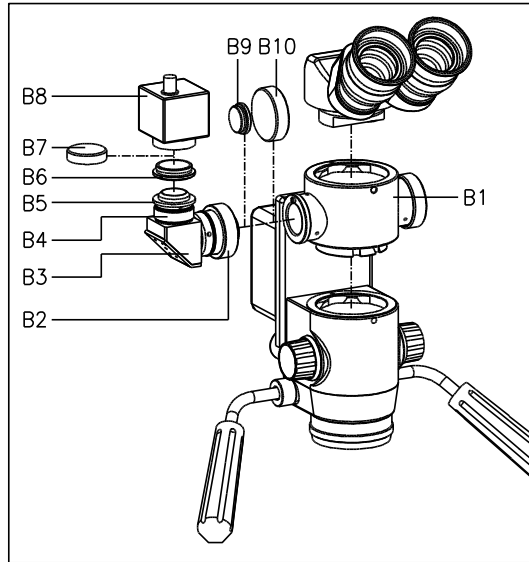

Fig.6
- (1) 10.5.1 Unscrew the inner hexagonal tightening bolt [A3] by the 2mm inner hexagram screw drive.
- (2) 10.5.2 Fix the beam splitter [B1] in the microscope.
- (3) 10.5.3 Select one beam split-port in the left or right side of the beam splitter as the position of the CCD adapter [B3]. Unscrew the dust-proof cover [B10] on the beam split-port and keep it well.
- (4) 10.5.4 Take out the CCD adapter [B3] and screw off the dust-proof cover [B7] [B9]. Fix the CCD adapter [B3] into the microscope beam split-port and wedge the orientation bolt of the beam split-port into the orientation groove of the CCD adapter [B3]. (There are three grooves on the plane. Select one according to your need.) Screw down the screw flange [B2] on the top of the adapter.
- (5) 10.5.5 Screw off the lens and screw flange of the CCD [B8] and keep them well. Screw the CCD connector [B6] into the CCD lens and tighten it.
- (6) 10.5.6 Screw down the CCD with the CCD adapter [B3].
- (7) 10.5.7 Connect the power plug to the appointed power.
- (8) 10.5.8 Connect one end of the video frequency wire to the CCD signal fan-out. The other end should be connected to the Video In port of the monitor or video camera. Switch on the power after all have been done. Observe the image on the monitor and rotate the focus-adjusting ring [B4] to make the image clear. Attention to the orientation of the image. Rotate the CCD out by inches till the image's orientation is right if it is declining. Screw down the screw flange [B5] to lock it.
- (9) 10.5.9 Fix the geminate ocular drawtubes to the beam splitter [B1] and screw the inner hexagonal tightening bolt [A3] by the 2mm inner hexagram screw drive. (Fig.6)